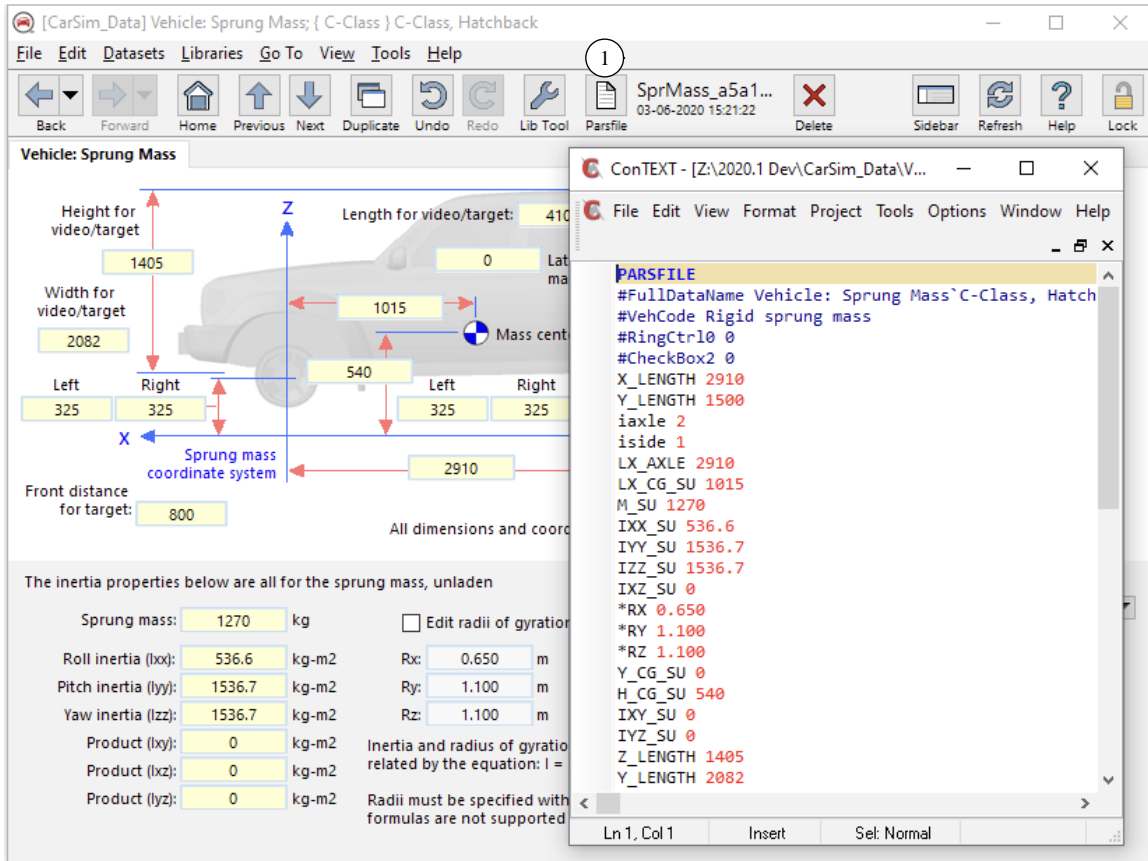

Figure 10. The dataset for each screen is contained in a Parsfile.
The data for each screen is contained in a text file called a *Parsfile*. Each screen has a button (1) (Figure 10) that you can click to view the Parsfile. Text in a yellow field in the GUI will appear in the Parsfile preceded by a keyword that identifies a corresponding parameter in the model.